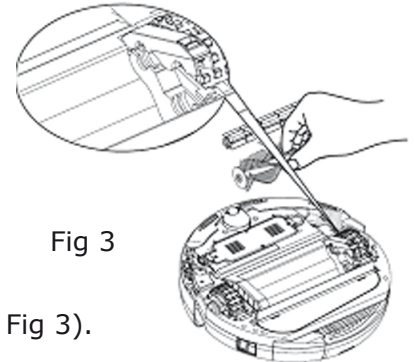

Fig 3
2. Connect one end of the Battery Charger to 220V 50Hz power supply and the other to the charging socket of the charging dock station, as shown on Fig 3. Then the screen of the charging dock station will display time.
2. Take out the main brush and middle rubber brush (as shown on Fig 3).
3. Correct position of batteries (as shown on Fig 3).